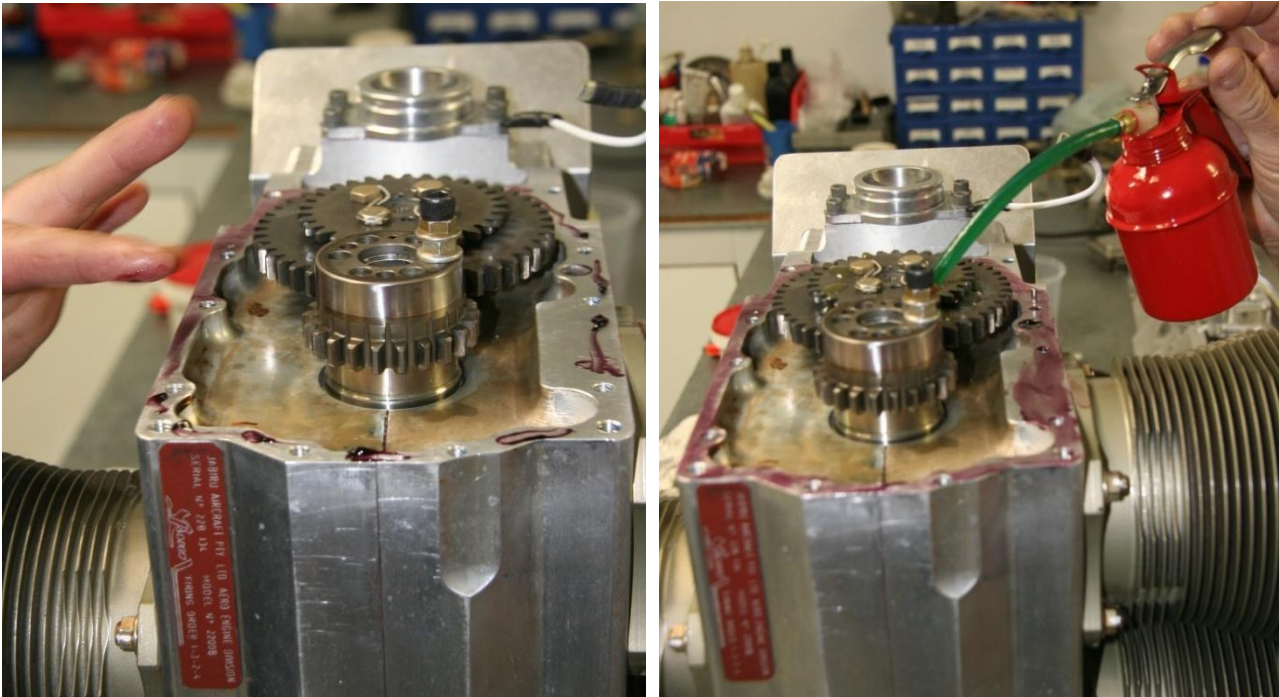

Figure 164 – Sealing Engine Mount Plate
- Apply Loctite 515 sealant to the rear of the crankcase and sump as shown in Figure 164. The cam drive gears should also be lubricated with oil now, before the gear cover is fitted.